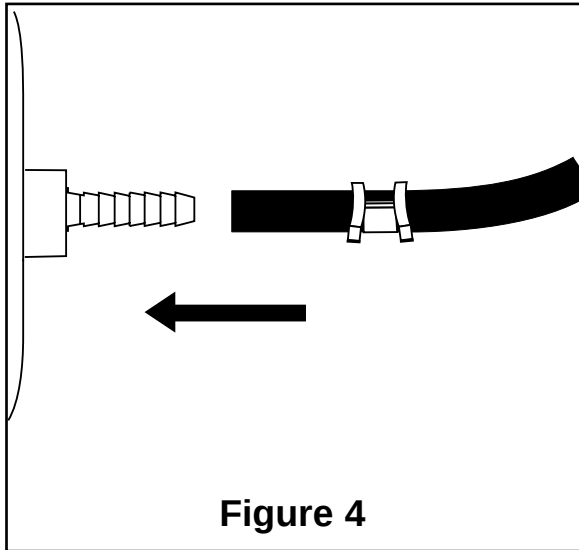

Figure 4
E. Push the air line onto the stem, covering all the barbed section (Figure 4). With pliers slide the air line clamp forward until it fully covers barbed section.
5. If it is ever suspected that the air bags have bottomed out, increase the pressure (fig. 4).